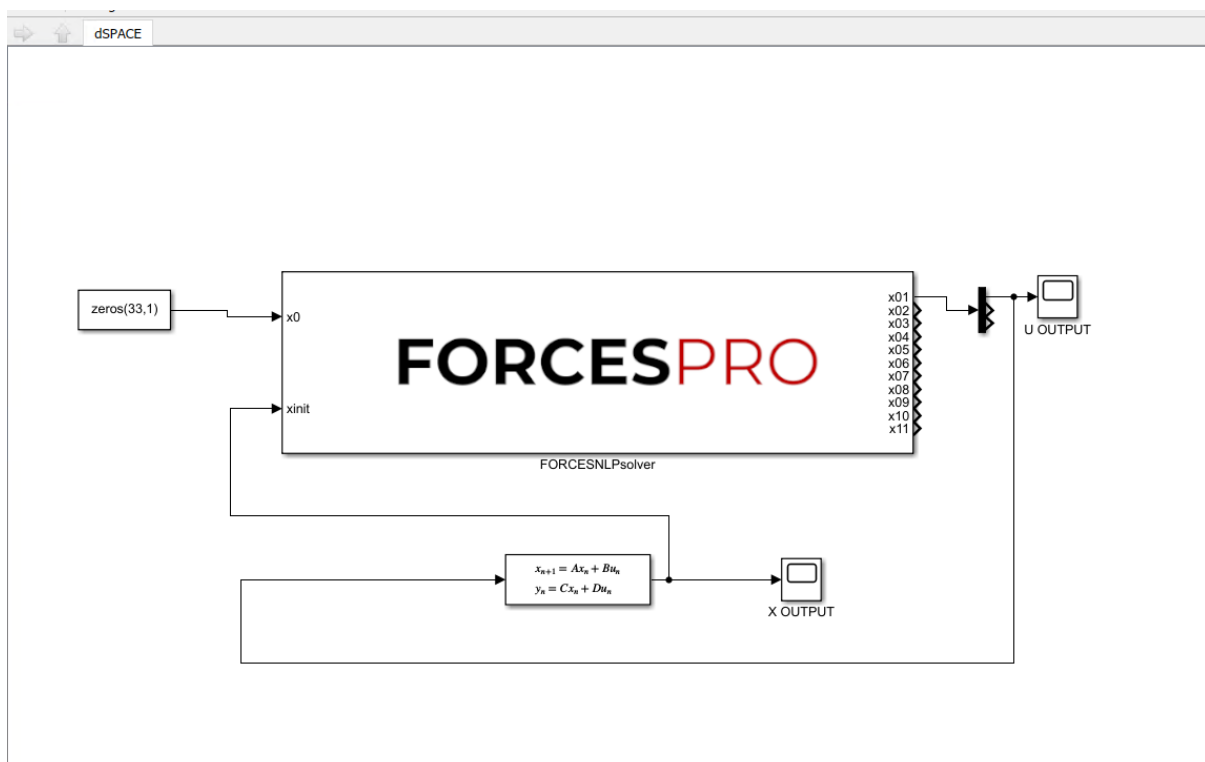

Figure 13.36: Copy-paste and connect the FORCESPRO block.
- 7) Copy-paste the FORCESPRO Simulink block into your simulation model and connect its inputs and outputs appropriately (see Figure 13.36).